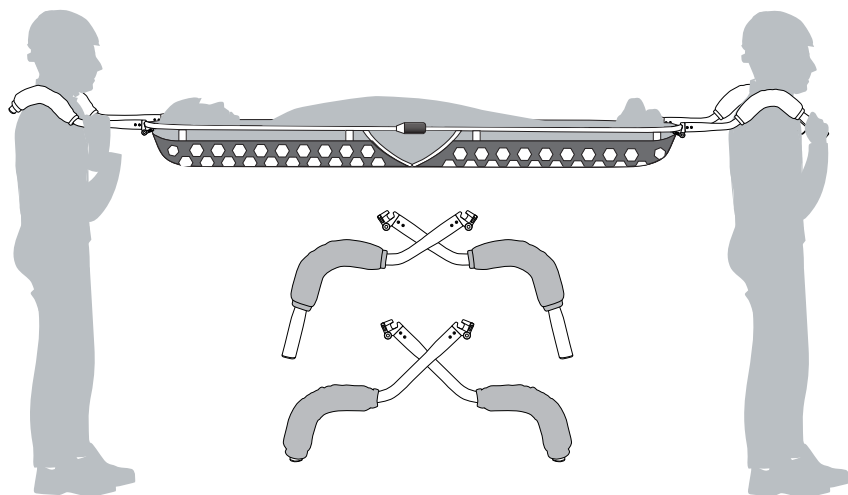

Fig.2
| Manual transport with handles 880060KITKK (optional components) - (fig. 2) | 300 kg |
- a) Handles, for “shoulder” transport (fig. 2),